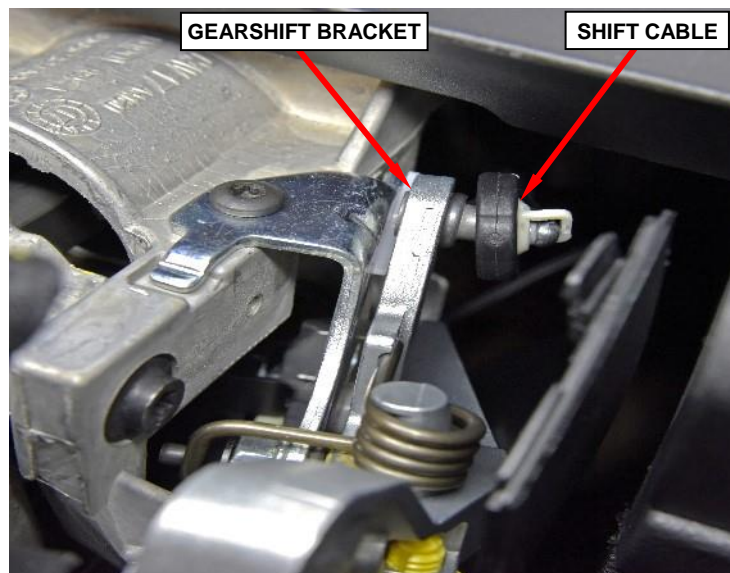

Figure 9 – Shift Cable
14. Disconnect the shift cable from the gearshift bracket (Figure 9).
35. Connect the shift cable to the gearshift bracket (Figure 9).